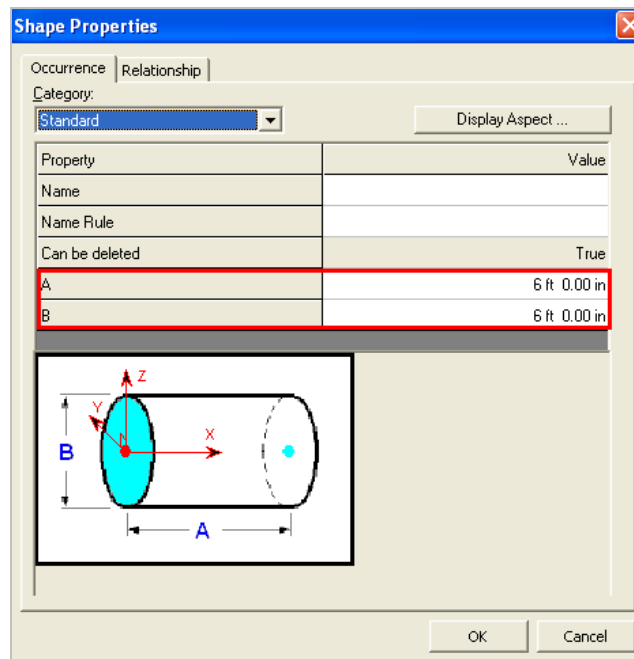

Figure 33: The Dimensions of the Maintenance Envelope Highlighted
32. Key in **6 ft** for **A** and **6 ft** for **B** in the **Shape Properties** dialog box, as shown in Figure 33.